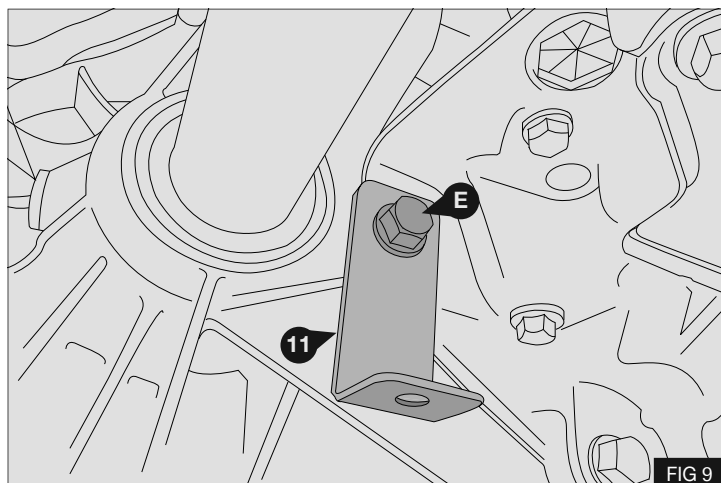

FIG 9
1. Install the support plate (11) at the point shown using the original fastener (E). - Fig 9